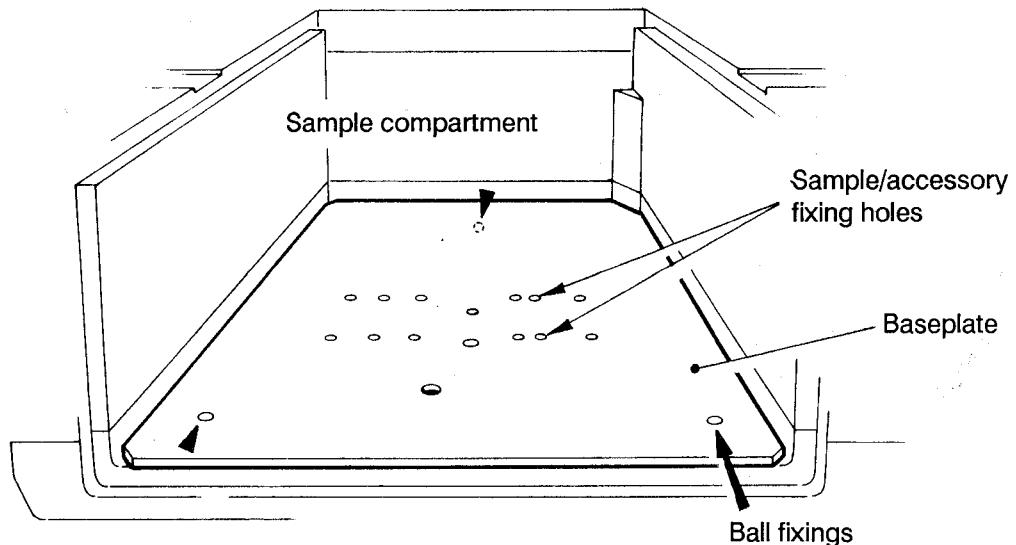

Fig 3.3 Sample carrier installation
- (a) Unpack the sample compartment base plate and insert into the sample compartment (see Fig 3.3).
- (b) Unpack the Sample Carrier and, using the M4 screws and hexagonal wrench supplied, fit the carrier to the threaded holes two in from the right hand edge of the base plate (see Fig 3.3). To align the Sample Carrier, refer to Section 8.4.